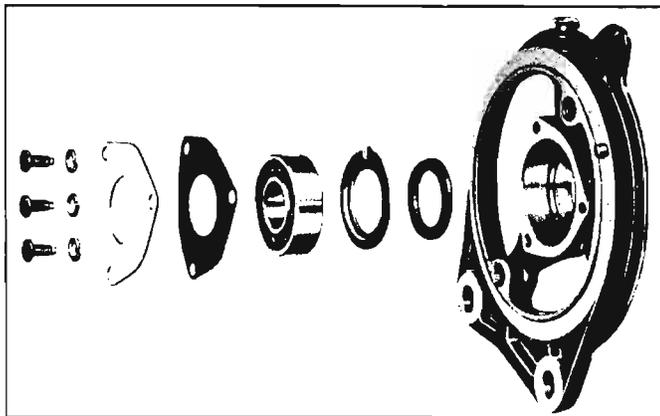

Fig. 8-18—Exploded View of Drive End Frame Assembly
6. Remove three drive end bearing retaining plate screws, retaining plate, gasket, ball bearing, re-retainer, and felt washer from drive end frame (fig. 8-18).